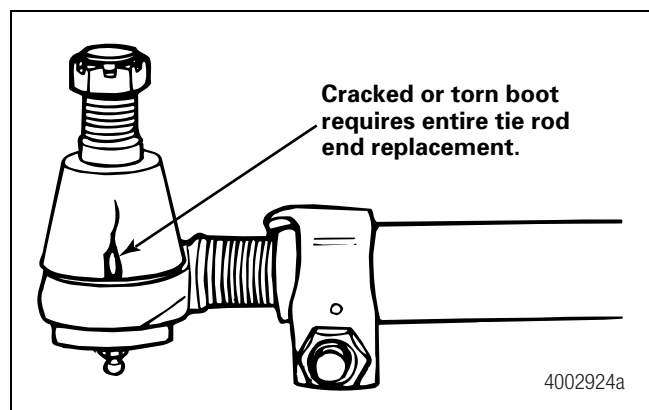

Figure 3.3
4. Check the tie rod boot for cracks, tears or other damage. Also check the boot seals for damage. Replace the entire tie rod end if the boot is damaged or missing. Figure 3.3.